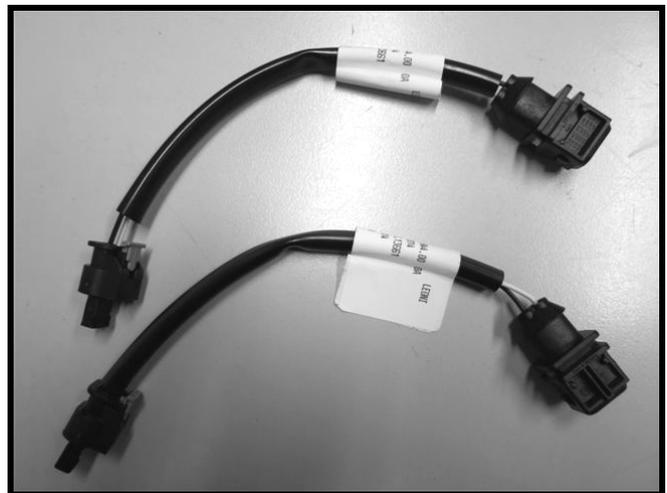

Fig. 15
- 5 In this case mount one TECHART adapter line each (fig. 15) between the respective cycle valve and the TECHART wiring harness.